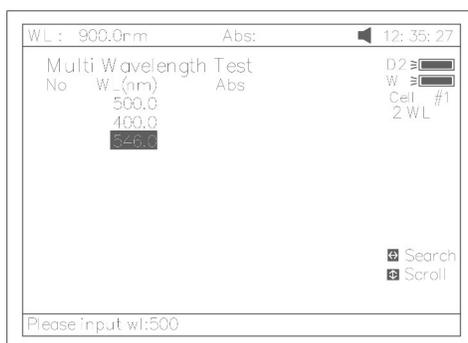

Fig 69
1. Press **【 F1 】** to setup a group of wavelengths for testing by pressing the numeric keypad followed by **【ENTER】** . (^) or (v) to modify the inputted data Fig. 69. Press **【ESC/STOP】** to finish setup and exit.